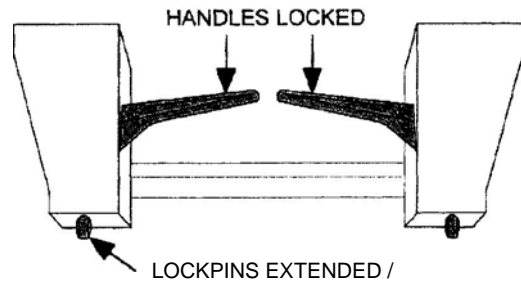

Figure 2 - Attachment Coupler Handles - Locked
4. Engage the latching mechanism to secure attachment to loader. The lockpins must be completely extended and secured into the retaining slots provided on the attachment. Figure 2.